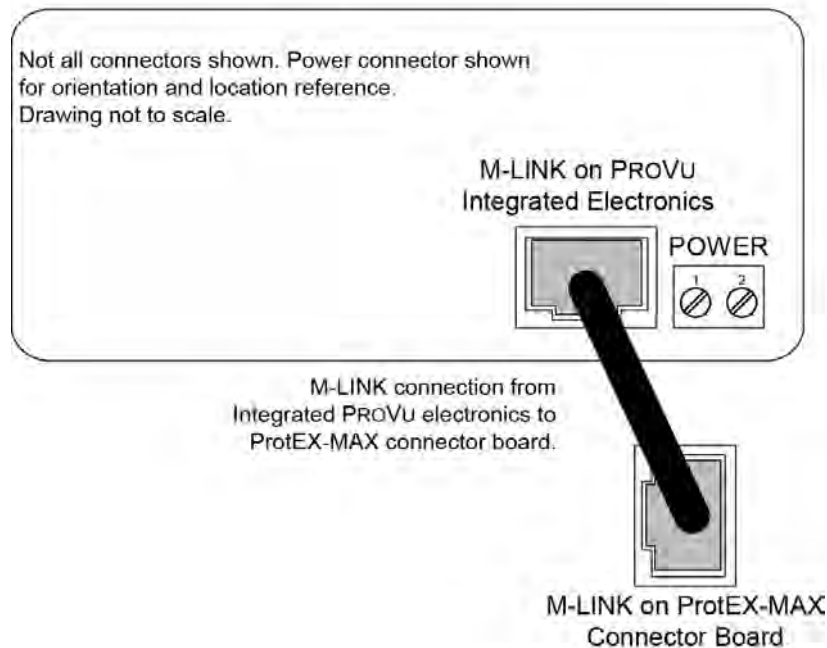

Figure 7: Integrated ProVu Required Connections
Relay connections are made to two six-terminal connectors labeled RELAY1 – RELAY4 on Figure 7. Each relay's C terminal is common only to the normally open (NO) and normally closed (NC) contacts of the corresponding relay. The relays' C terminals should not be confused with the COM (common) terminal of the INPUT SIGNAL connector.